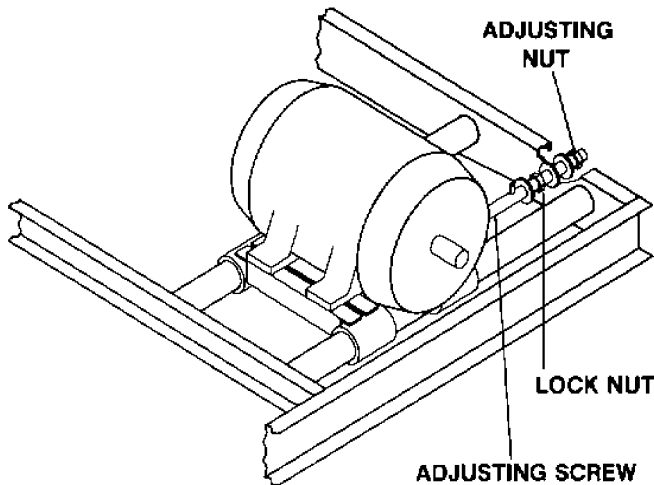

FIGURE 5a. ADJUSTABLE MOTOR BASE (CENTRIFUGAL FAN)
The motor base hangers, hinges and adjusting screw (see Figure 5a & 5b) should be coated twice a year using a good quality corrosion inhibiting grease, such as one of those recommended for lubricating the fan shaft bearings (see Table 3).
- a) Loosen locking nut (see Figure 5a).
- ① clockwise to loosen belt tension
- ② counterclockwise to tighten belt tension